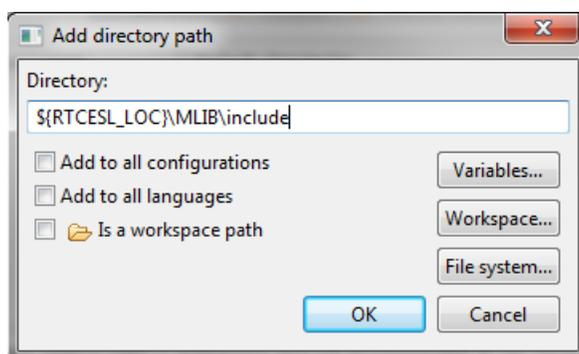

Figure 1-21. Library include path addition
28. Click the Add... button on the right, and a dialog appears. See Figure 1-21.